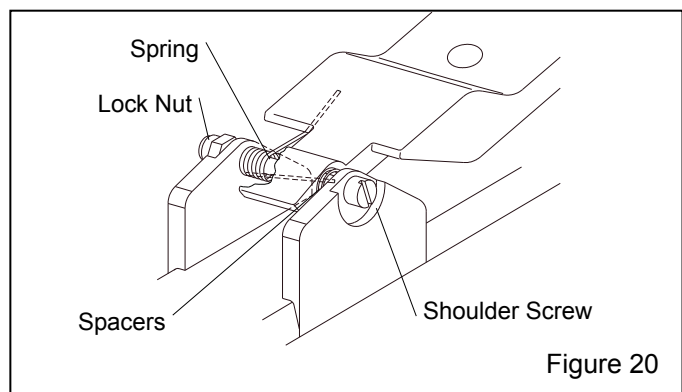

Figure 20
6.8.3 Handle lever replacement, Figure 20
6.8.3.1 Remove the lock nut from the shoulder screw. Before removing the screw, note the positions of the spacers and spring, as shown in Figure 20. The bent end of the spring is against the handle lever, facing up. The straight end is against the body, facing down.